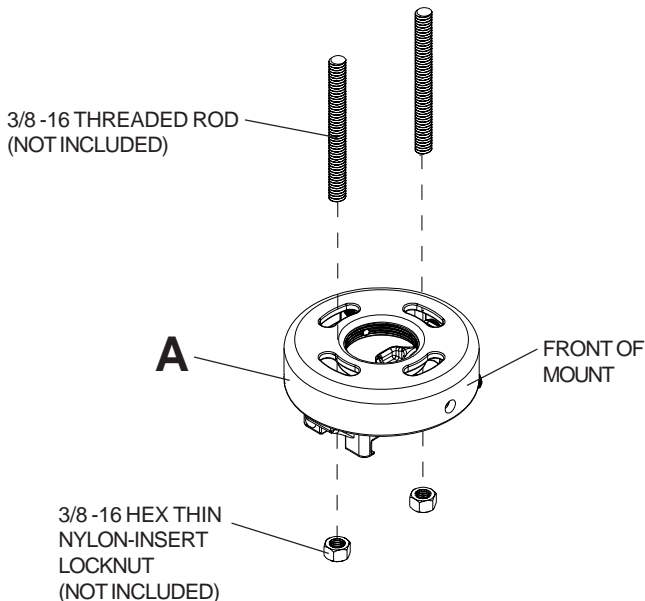
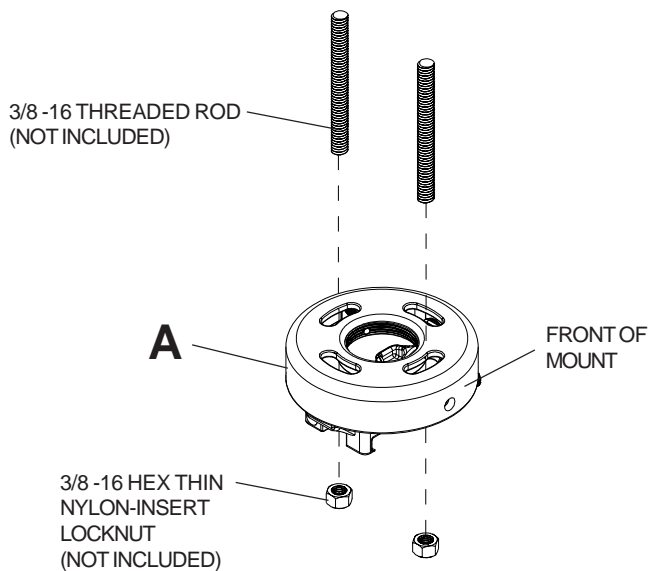

fig. 1.1
fig. 1.2
**3** Attach projector mount assembly (A) to two 3/8-16 threaded rods (not included) using two 3/8-16 hex thin nylon-insert locknuts (not included) as shown in **figure 1.1** or **figure 1.2**.